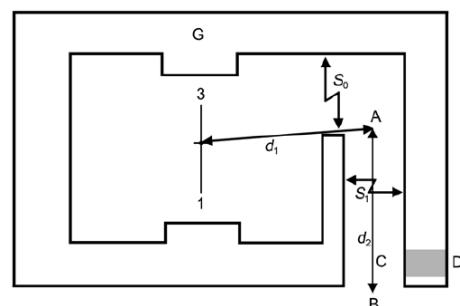

Fig. 2.8. Room layout for calculating neutron capture gamma-ray and neutron dose equivalents at the maze door.
In this application of Kersey's method, H_0 is the total (direct plus room-scattered plus thermal) neutron dose equivalent at a distance d_0 (1.41 m) from the target per unit absorbed dose of x rays at the isocenter (mSv Gy^{-1}) (see Table E.9 in Appendix B for measured values of H_0). The ratio S_0/S_1 is the ratio of the inner maze entrance cross-sectional area to the cross-sectional area along the maze (Figure 2.8). These are usually different primarily because of their different widths, though the height may change also due to the use of lintels above the inner maze entrance. Distance d_1 , which is shown in Figure 2.8, is the distance from the isocenter to the point on the maze centerline from which the isocenter is just visible (A). For a maze with one bend as illustrated, d_2 is the distance in meters from A to B. In the case of a maze with two bends, d_2 is the distance from A to C plus length C to D. Note that for this method the maze has a TVD of 5 m for the attenuation of neutrons in the maze.